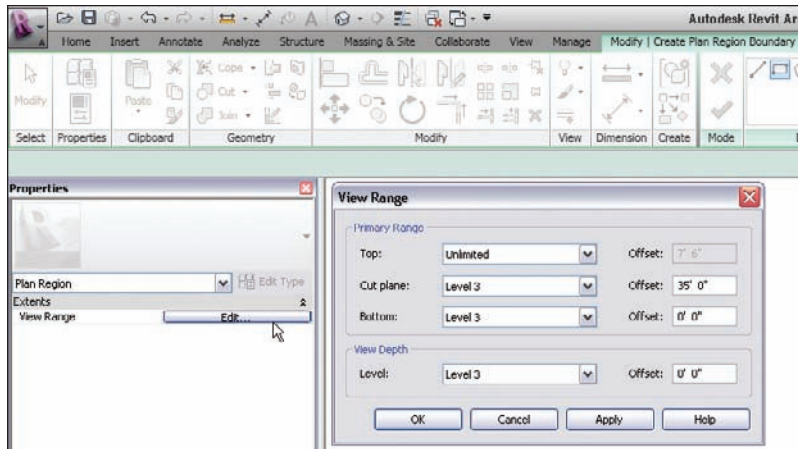

FIGURE 7.36 Setting the view range for the plan region
5. In the Properties dialog, click the Edit button in the View Range row, as shown in Figure 7.36.
6. In the View Range dialog, set Top to Unlimited and Level 3 Cut Plane Offset to 35'-0", as shown in Figure 7.36.